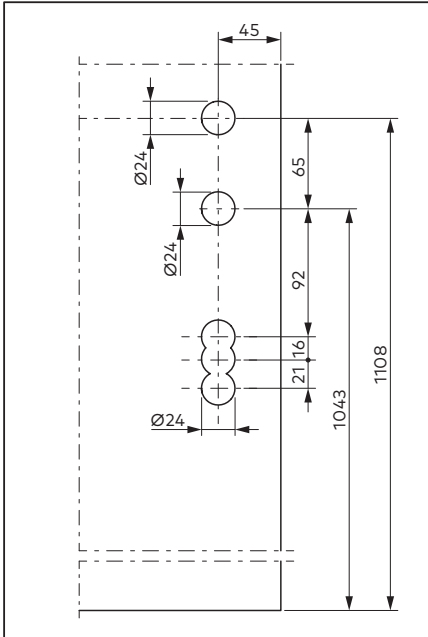
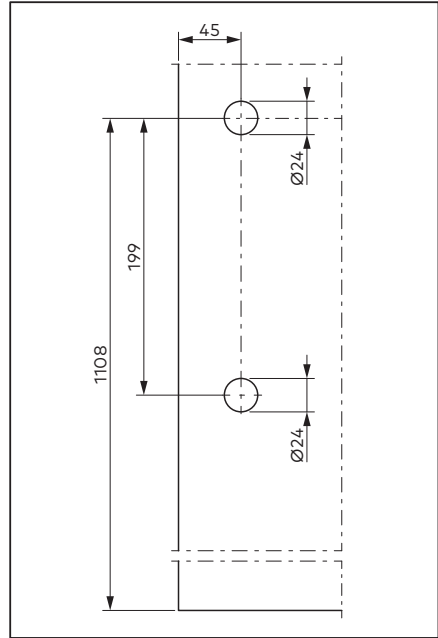

Fig. 11 Glass machining on the glass door for lock installation on the main closing edge
Fig. 12 Glass machining on the glass door for installation of the panic door fitting on the secondary closing edge/hinge side (optional)
- Before installation, ensure that the glass machining on the glass door complies with specifications (Fig. 11 and Fig. 12) and the project-related unit drawing.